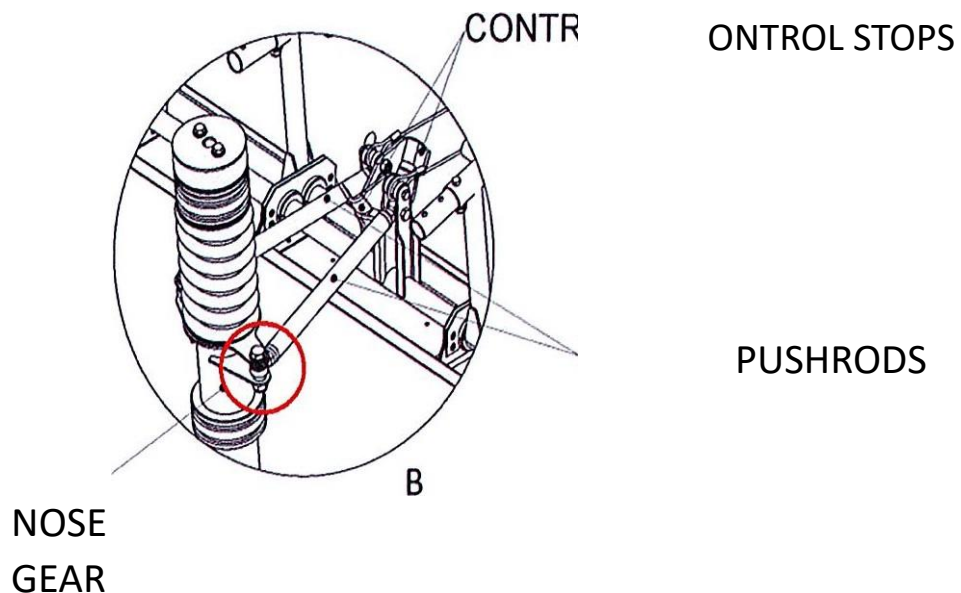

Figure 2 — Illustrates the AN5 bolt to be removed, disconnecting the pushrod. No adjustments should be made to the pushrod and/or eyebolt.
4. Remove the pushrods from the nose wheel only by detaching the AN5 bolt with the 1/2" spanner/ratchet respectively (Shown in Figure 2).